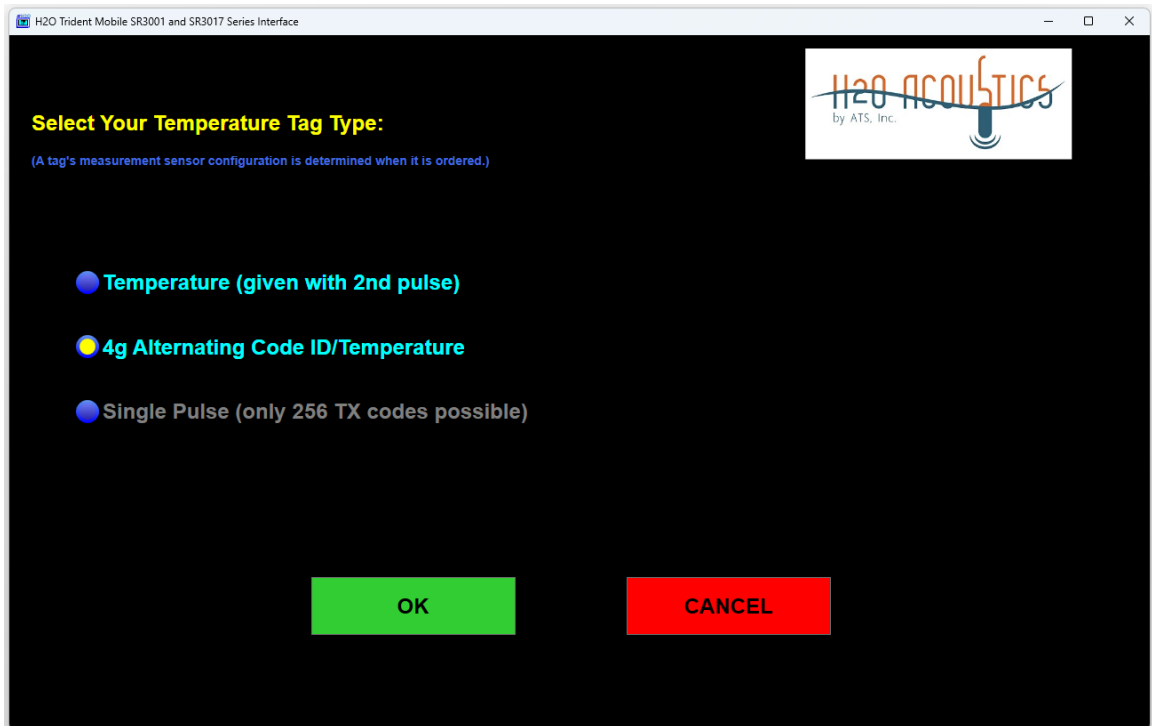

Figure 5-14
Shown in Figure 5-14 is the entry screen used for Temperature only tags. The default temperature only tag is the “Model SS400 (SB) Alternating Code ID/Temperature Acoustic Tag”.